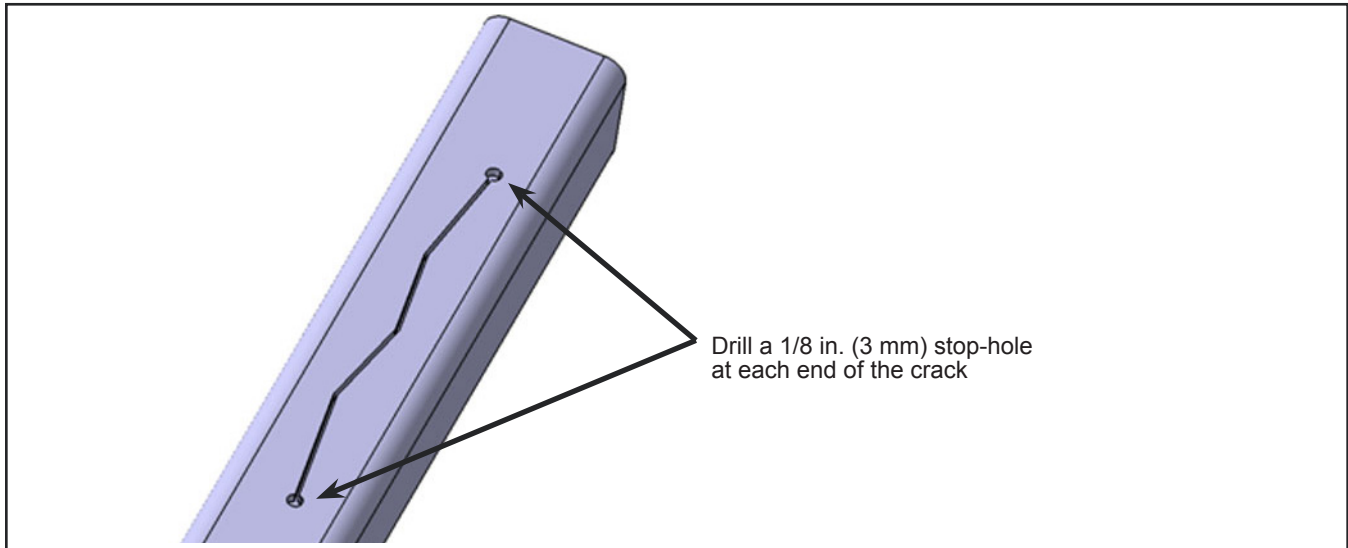

Figure 2 - Typical crack with a stop-hole drilled at each end
- 1.5. Drill a 1/8 in. (3 mm) stop-hole at each the end of the crack. If the crack ends at an edge of the support, do not drill a stop-hole at that end. See Figure 2.